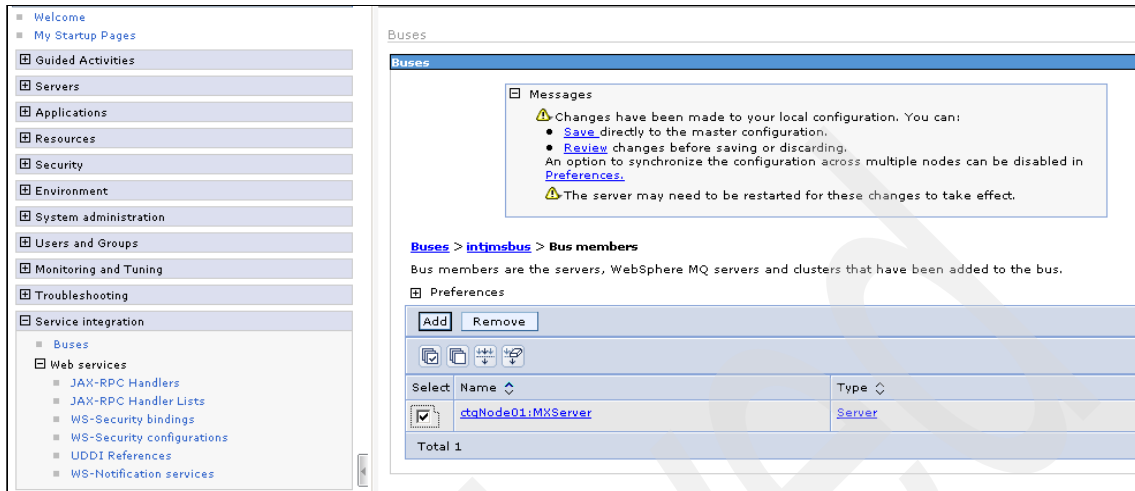

Figure A-29 Save changes
5. Click **Save** (see Figure A-29).